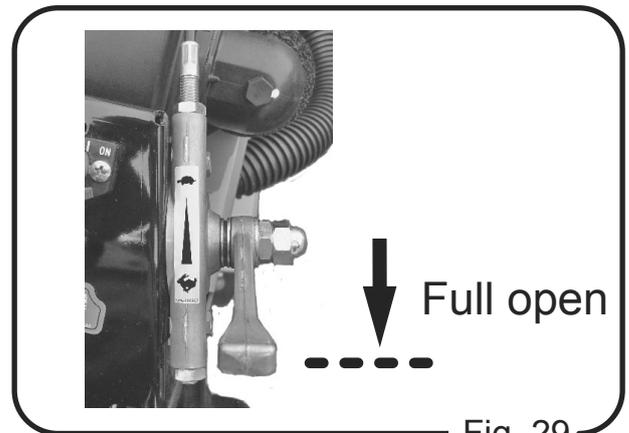

Fig. 29
2. Gradually open the throttle lever, and set the engine revolution at high speed. (Fig. 29)